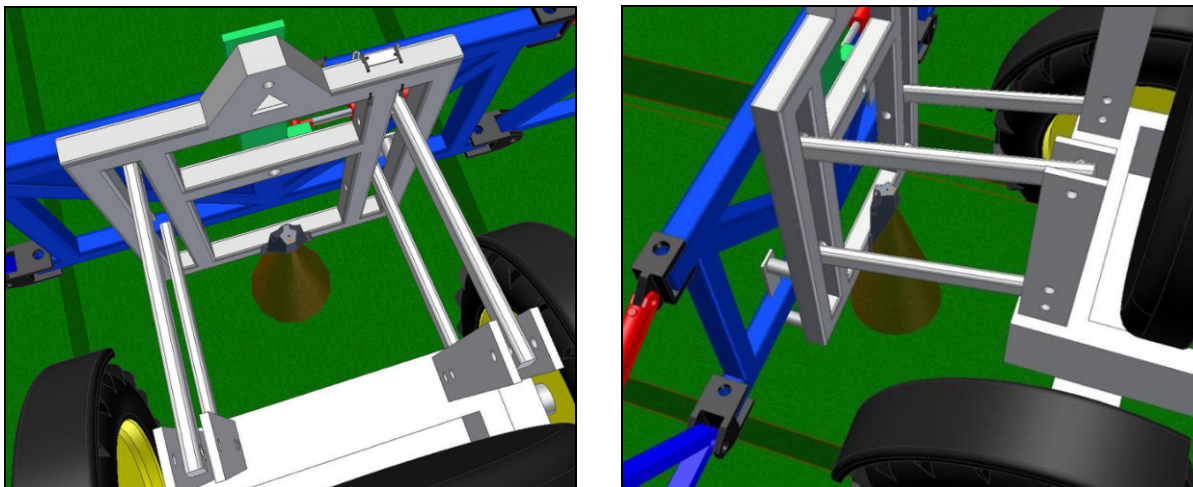

Figure 12: Example Mounting of the Main Lift Bracket
2. There are a variety of ways to mount the main lift bracket on most sprayers. The bracket should position the sensor approximately in the center of the sprayer, forward of the boom. An example of this mounting is illustrated in **Figure 12**.